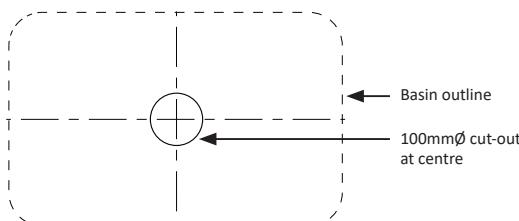

Figure 4.
2. Check outlet at wall is set at the correct height for the basin that you are installing. See figure 4.